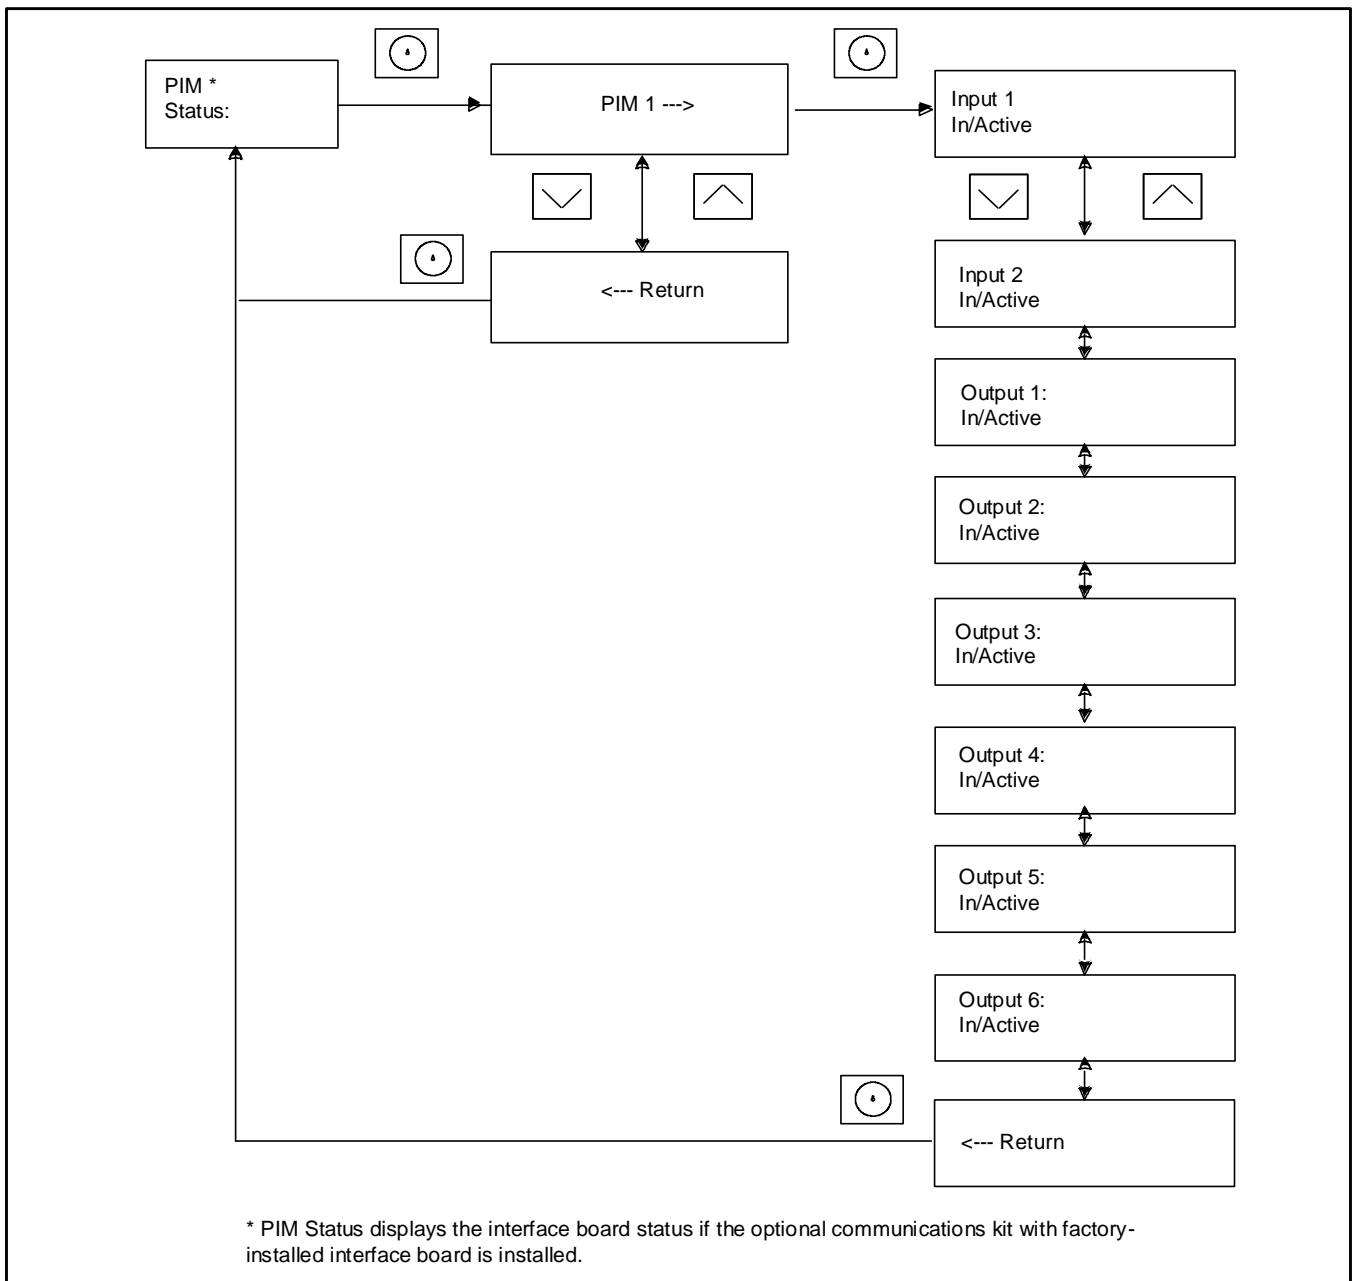

Figure 37 Programmable Interface Module (PIM) Status Menu
The PIM status menu displays the status of inputs and outputs connected to the programmable interface module (PIM) or communications kit interface board (IB). See Figure 37. This is a status display menu only. Input and output settings cannot be changed from the VSC controller's user interface.